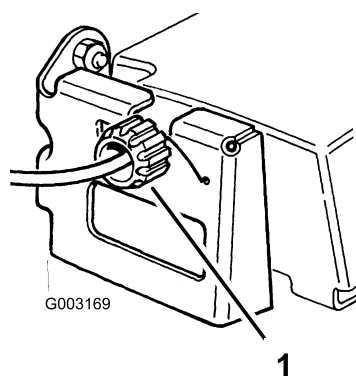

Figure 29
2. Rotate the control knob clockwise a half turn if the lawn mower does not self-propel. If the lawn mower creeps forward, rotate the knob a half turn counterclockwise to loosen the belt (Figure 29).